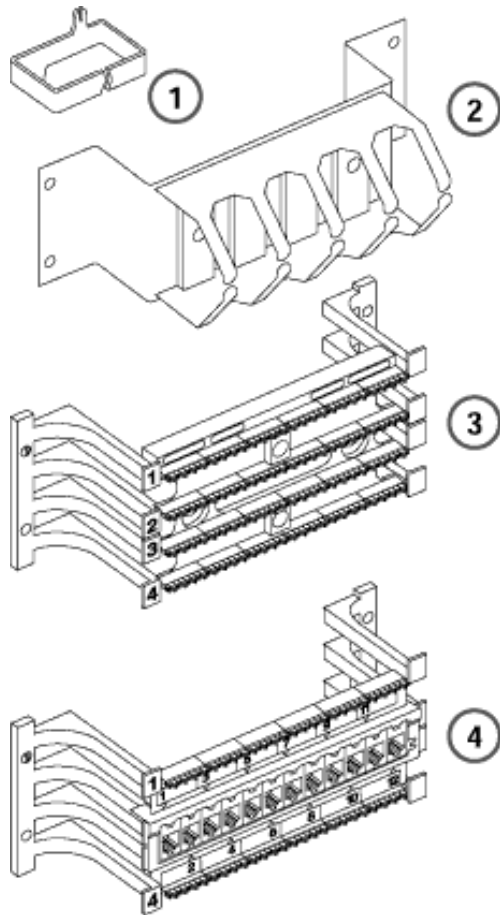

Figure 4-2. RJ21X Wiring Field Hardware
Build the wiring field between the network interface and the control unit using 110AB1-100JP12 termination blocks with modular jacks and associated hardware. Figure 4-2 shows the hardware you will need.
2. Mount the wire troughs and the termination blocks. See Figure 4-2 “RJ21X Wiring Field Hardware” on page 4-5.